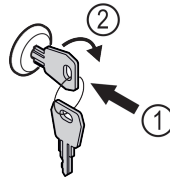

Fig. 209
- Insert the key. Fig. 209 (1)
- Turn the key clockwise by 90°. Fig. 209 (2)